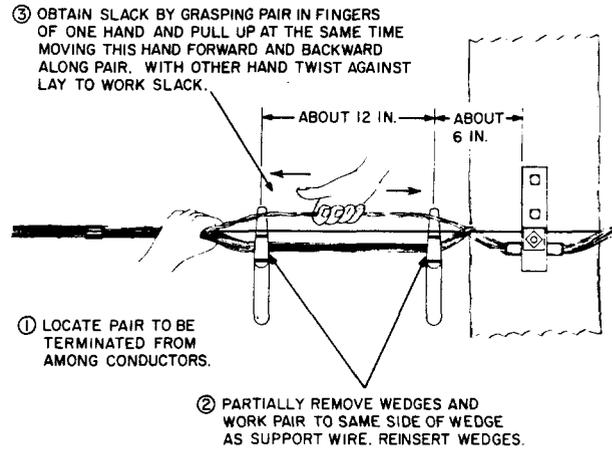

Fig. 9—Locating Wire Pair
8.02 Insert wire wedges so that support wire is separated from the conductors and locate pin to be terminated (Fig. 9).